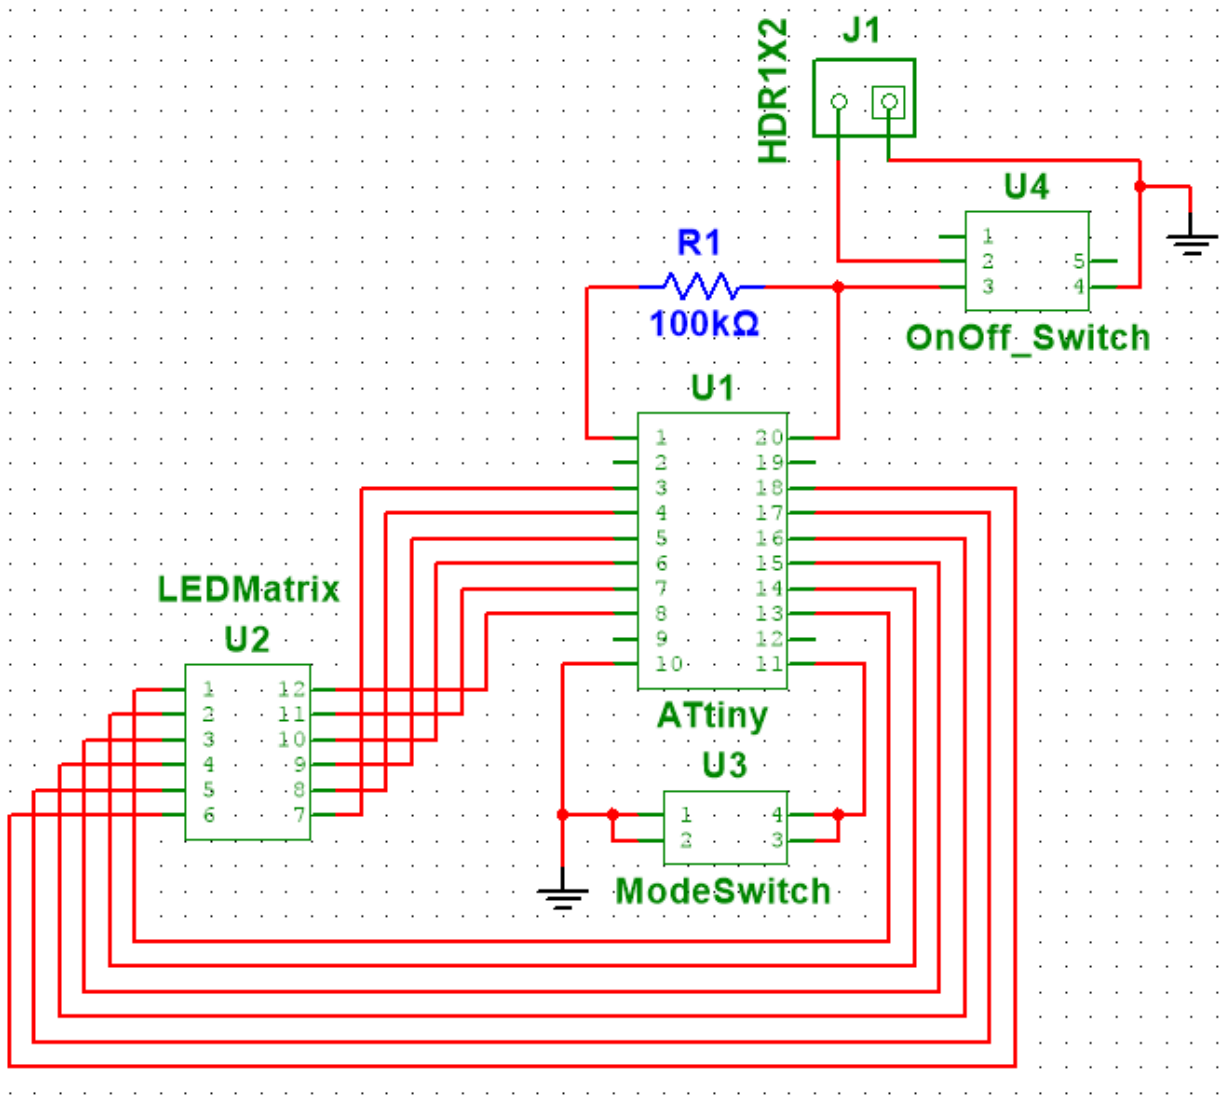

Figure 1: TinyMatrix Pendant
In this lab you will be utilizing your understanding of circuit generation/testing in Multisim in order to create the final project (figure 1), a TinyMatrix pendant. From this schematic you will be able to import your diagram into Ultiboard in order to design a Printed Circuit Board (PCB).
1. Once you have Multisim open you'll notice that when you try to place the components shown in figure 1 that they're not in the master database. This is often times the case when working on real world applications. For instances like this we can "cheat" by looking up the datasheet and finding the footprint for the chip. This footprint represents the physical layout, or pin placement, of the chip that will be placed on the PCB. For this reason it is very important that we have the correct footprint for the chip otherwise we cannot solder the chip to the board after it is made.
9. Now you can refer to figure 1 to draw the lines between components until your schematic matches. Once you've completed your schematic please have a lab TA check over your schematic before proceeding.